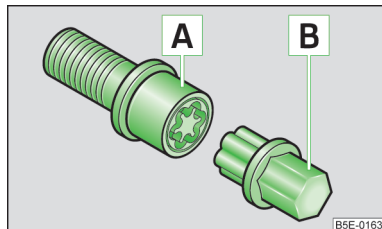

Fig. 180
- > Insert adapter [B] » Fig. 180 with its toothed end fully into the inner tooting of the anti-theft wheel bolt [A] to the stop so that only the outer hexagon projects.